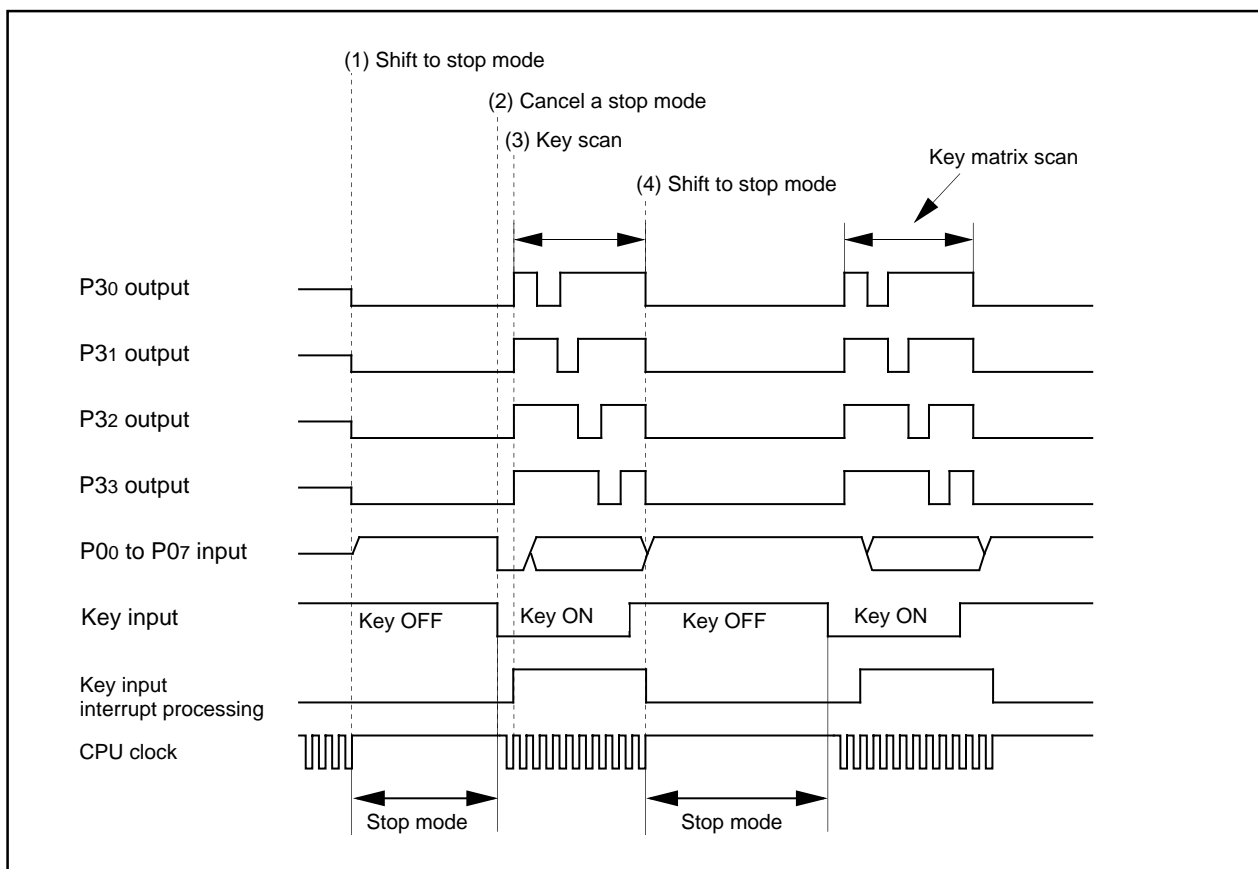
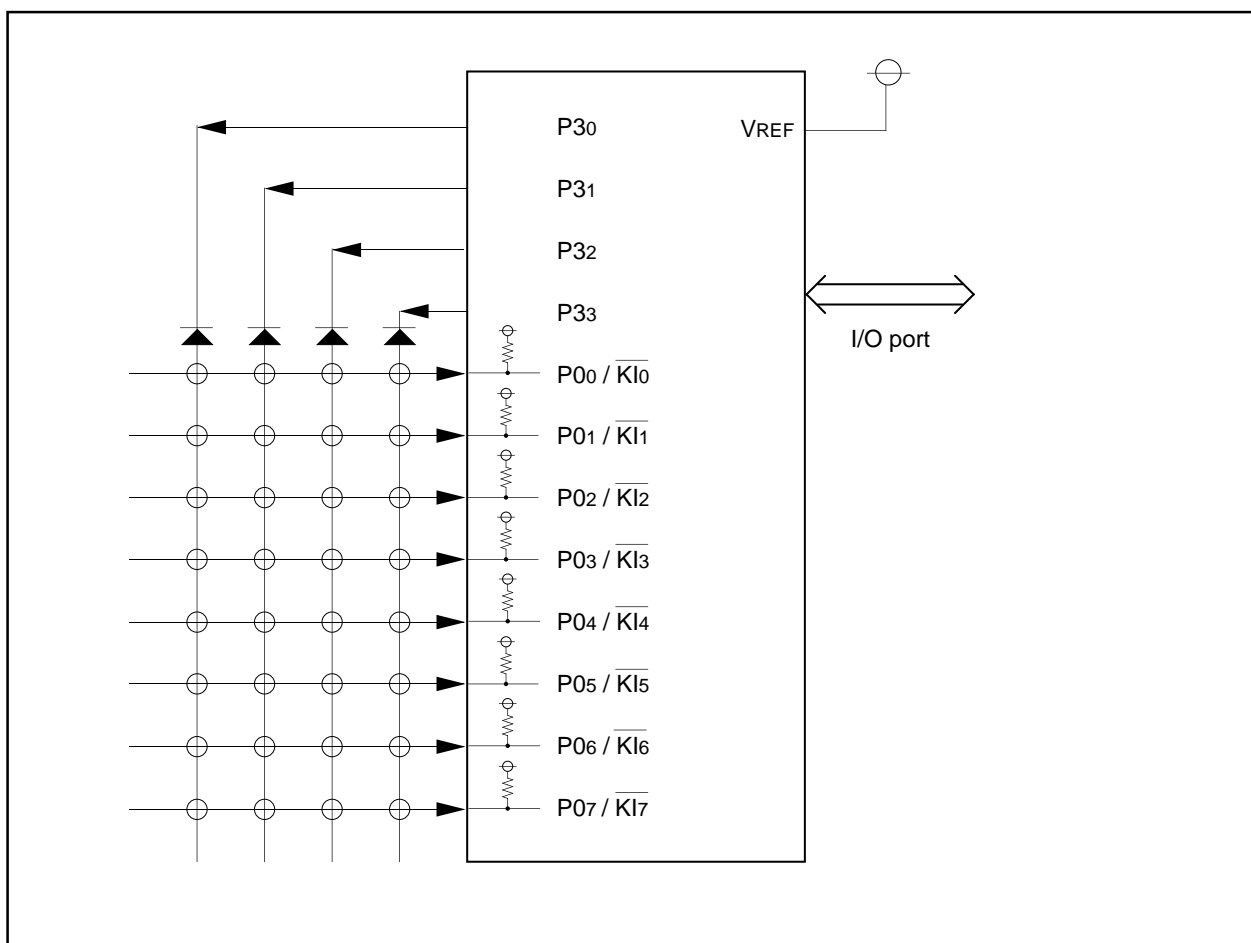
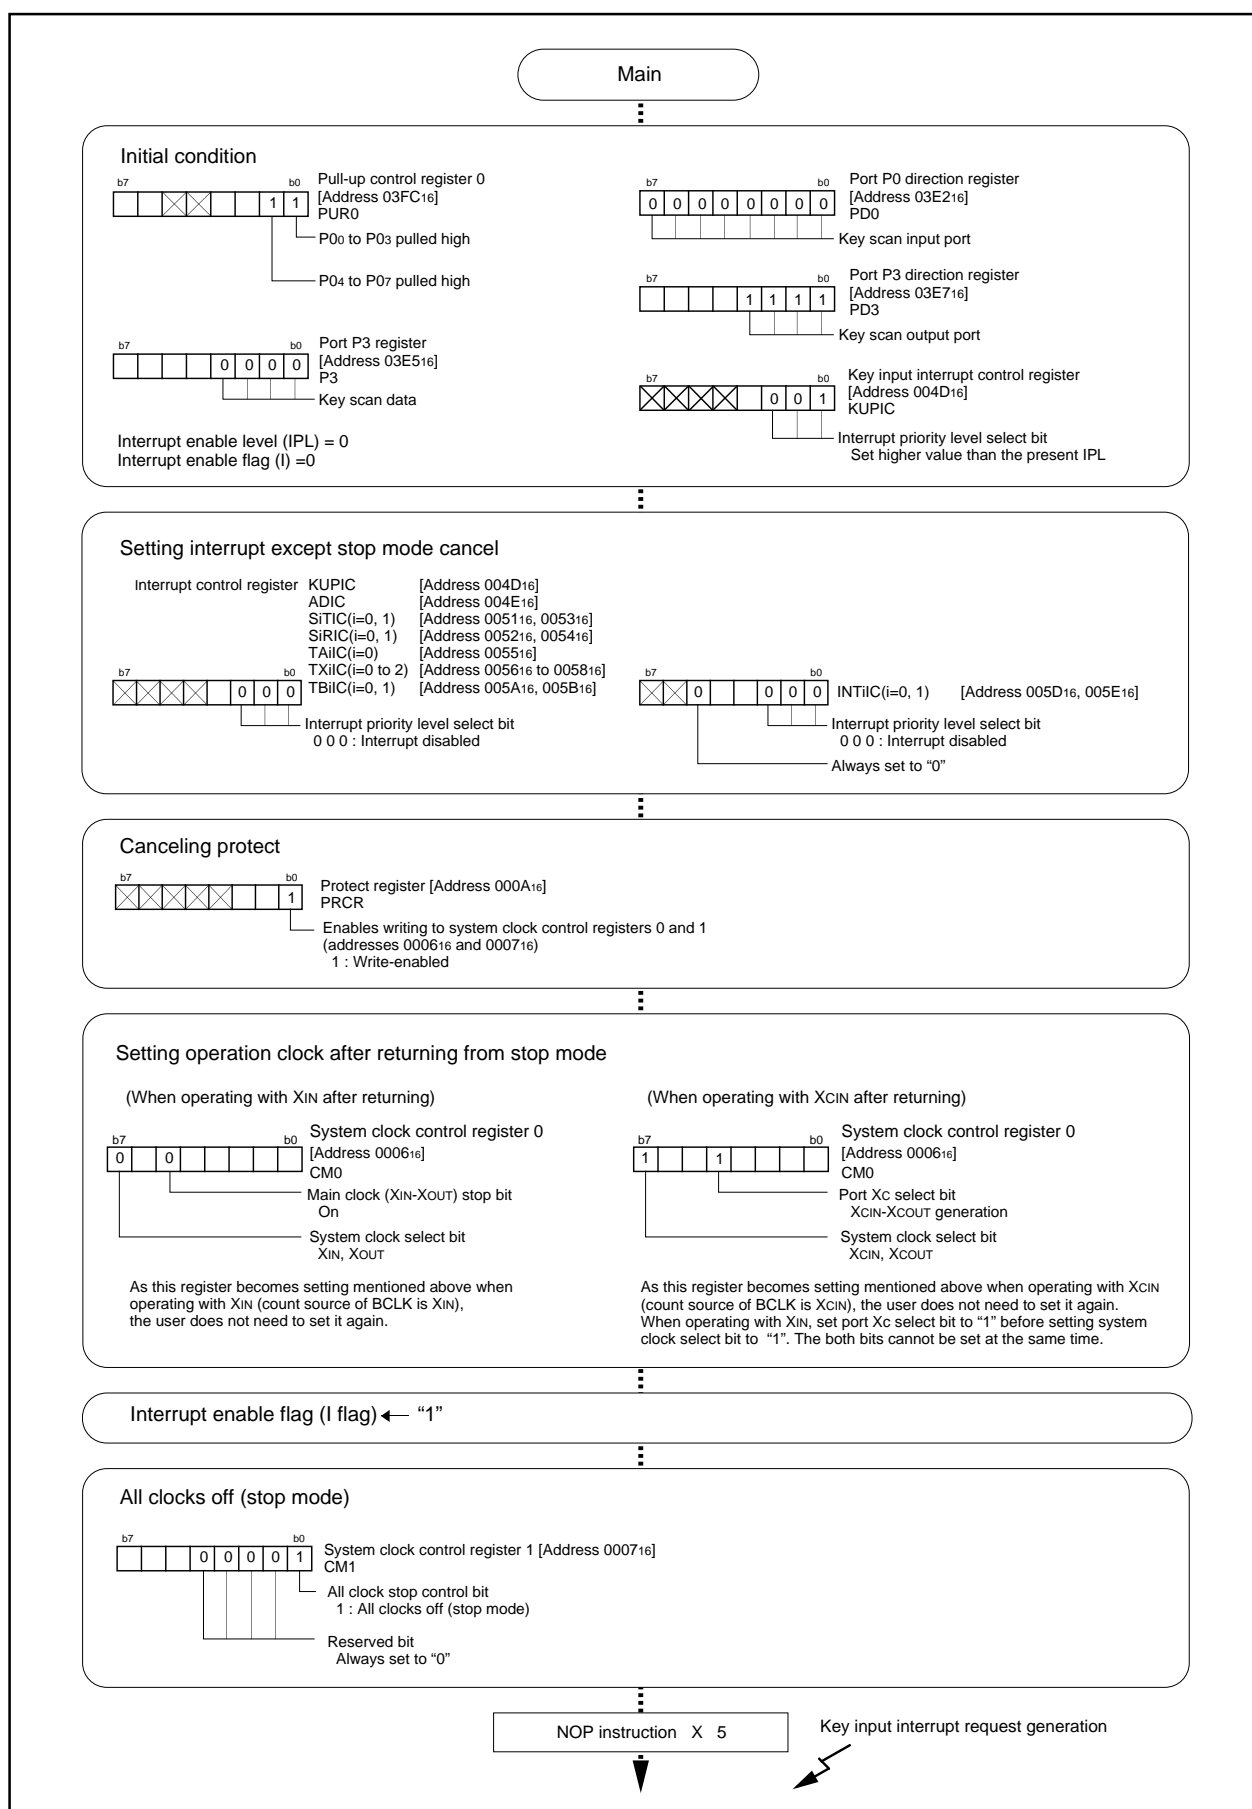

Figure 3.6.1. Operation timing of controlling power using stop mode
Figure 3.6.2. Example of circuit of controlling power using stop mode
Figure 3.6.3. Set-up procedure of controlling power using stop mode (1)
**Overview** The following are steps for controlling power using stop mode. Figure 3.6.1 shows the operation timing, Figure 3.6.2 shows an example of circuit, and Figures 3.6.3 and 3.6.4 show the set-up procedure.